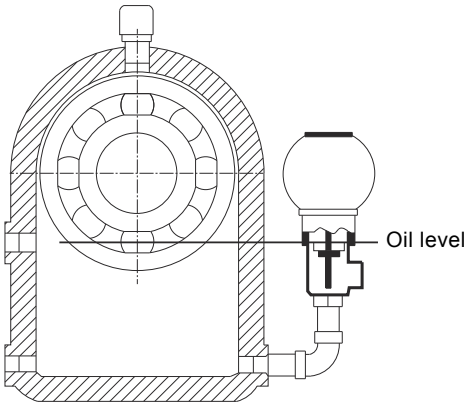

Fig. 7 Oil lubricated bearings
- On those Grundfos Type LFE Centrifugal End Suction pumps ordered with oil lubricated bearings, fig. 7. A regular oil maintenance program must be enforced. Pumps with oil lubricated bearings are fitted with a transparent reservoir (constant level oiler) that maintains oil level about the centerline of the bearing. When necessary, the oil supply in the reservoir of the constant level oiler must be renewed.